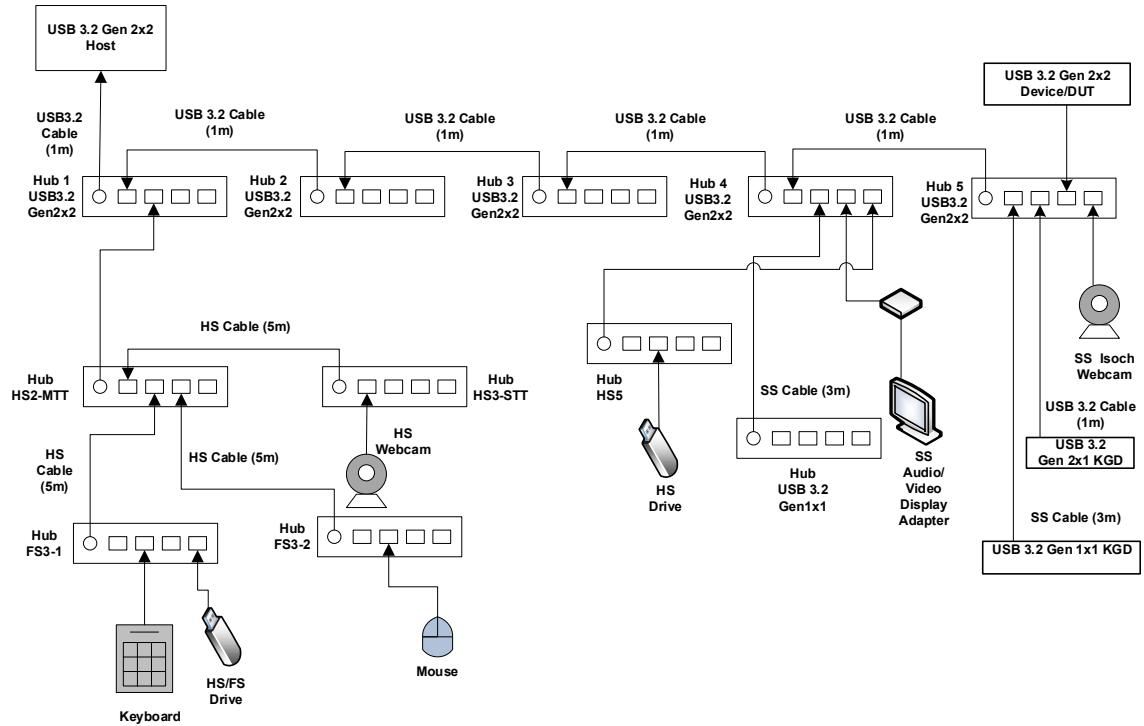

Figure 13-6: Modified USB 3.2 Gen 2x2 Hub/Host/Device Interoperability Interim Tree with USB 3.2 Gen 2x2 Hubs
- o Connect the USB 3.2 Gen 2x2 tree as shown in Figure 13-6